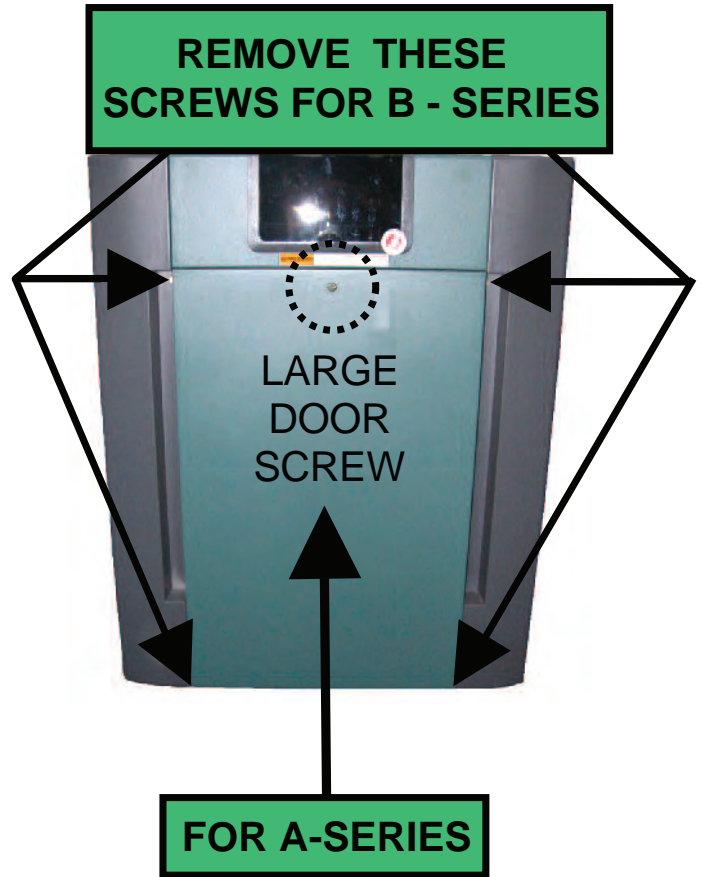

Fig. 1
3. B-Series: Remove front door by removing the 4 door panel screws shown in **Fig. 1** and **Fig. 2**.
4. A-Series: Remove front door by removing the large door screw in front of unit as shown in **Fig. 1**.